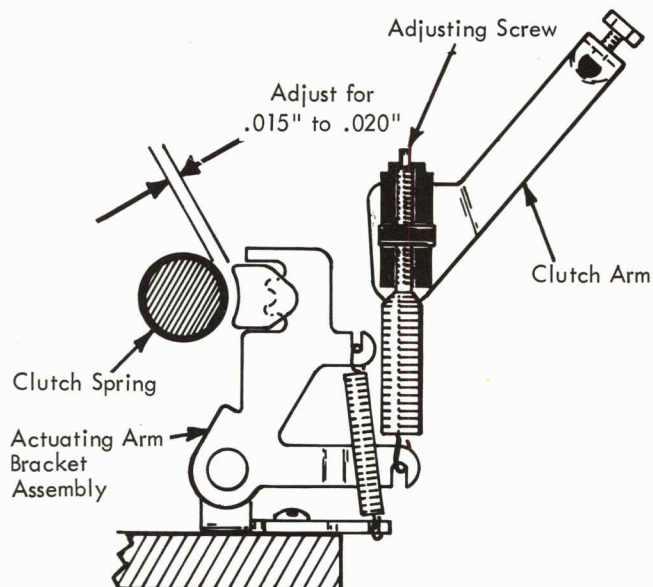

FIGURE 147.6 Carrier Return Shoe (Clearance)
- b. Clearance - The nylon shoe on the clutch actuating arm should clear the carrier return clutch spring by .015" to .020" when the machine is at rest (Fig. 147.6). Adjust the screw on the clutch arm to obtain proper clearance.